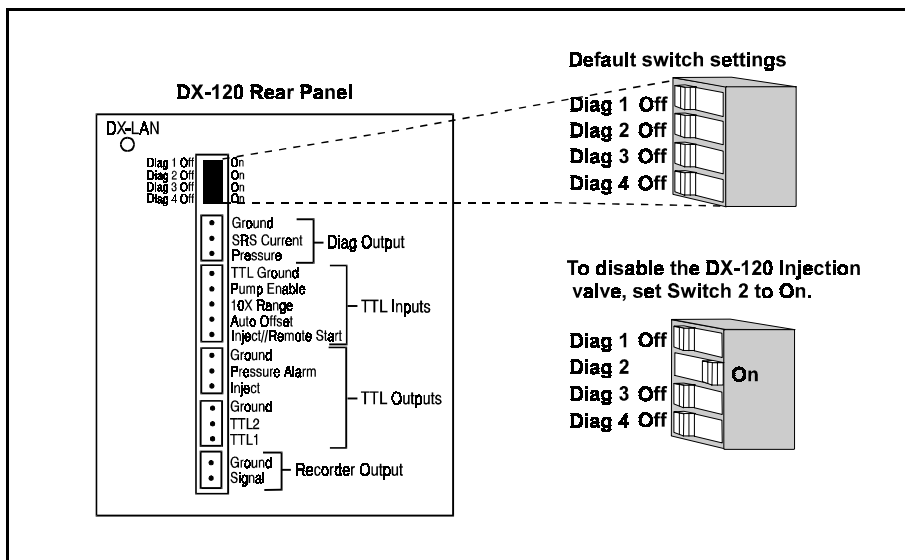

Figure B-16. Disabling the DX-120 Injection Valve
1. Locate the set of DIP switches above the TTL connectors on the DX-120 rear panel (see Figure B-16).